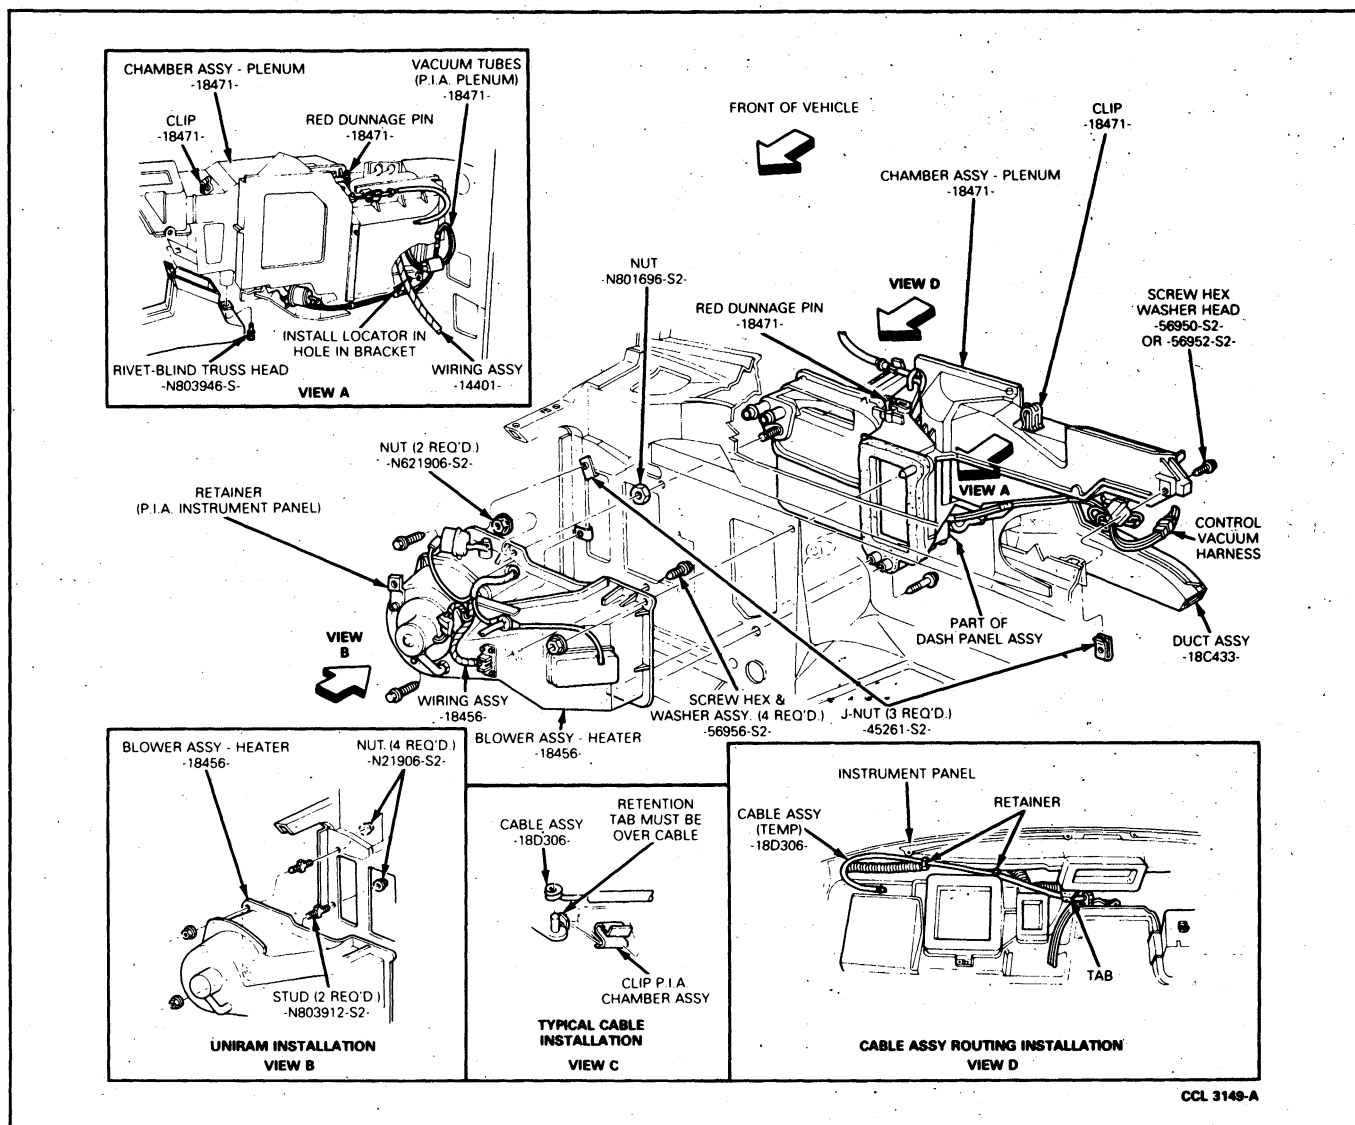

FIG. 14 Heater Blower Motor to Plenum Assembly
3. Remove the two nut and one screw which retain the left end of the plenum to the dash panel (Fig. 14).